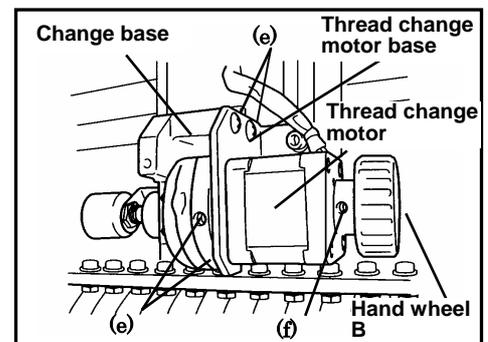

FIG.3
- (1) Install the thread change motor and the hand wheel B with setting screws.
- (2) Install the thread change motor base with two each set screws (e). (Fig.3)